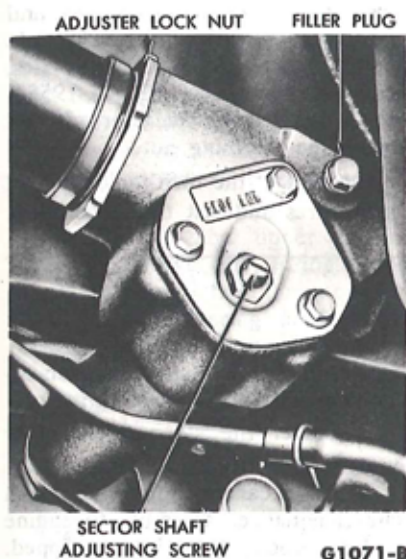

FIG. 3—Steering Gear Adjustments
6. Loosen the nut which locks the sector adjusting screw (Fig. 3), and turn the adjusting screw counterclockwise.
8. Loosen the steering shaft bearing adjuster lock nut, and tighten or back off the bearing adjuster (Fig. 3) to bring the preload within the specified limits.